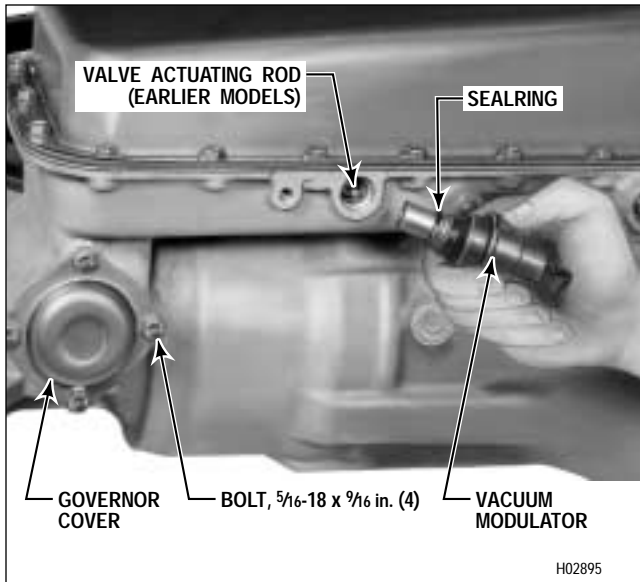

Figure 5-4. Removing Vacuum Modulator
- (3) Remove the vacuum modulator (Figure 5-4). Remove the sealring from the modulator.
- (4) For earlier models, remove the modulator valve actuator rod from the transmission case (Figure 5-4). Later model transmissions have an actuating rod retained in the modulator valve body. Refer to Paragraph 3-17b for vacuum modulator check.
(1) Remove the four bolts that retain the governor cover (Figure 5-4). Remove the cover.